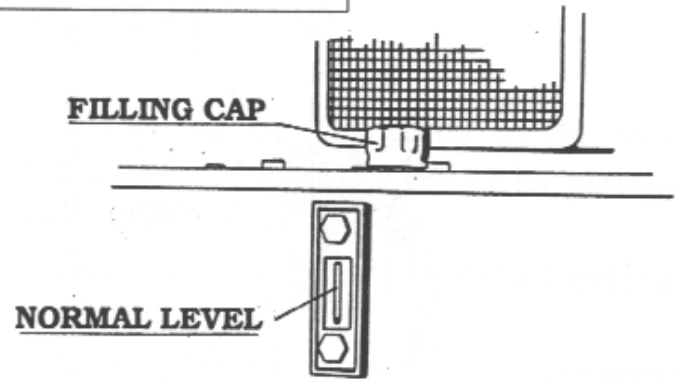

fig. 5
7. Check that the oil level is within the scale (see Fig.5).